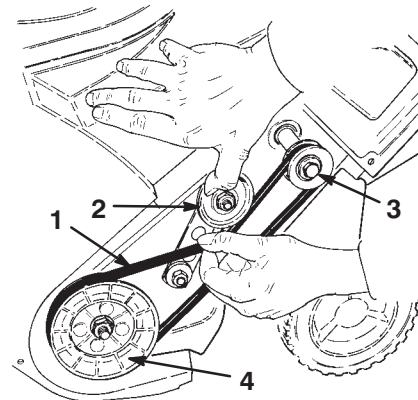

Figure 11
6. Pull the idler pulley up slightly while pulling out the old drive belt. Allow the pulley to gradually release when it can move past the belt (Fig. 11).
7. Rotate the rotor and work the old drive belt off the rotor pulley. The belt should slide easily off the drive pulley (Fig. 11).
8. Loop the new drive belt around the drive pulley. While holding the new drive belt, slip it onto the rotor pulley and rotate the rotor until the belt is completely on the rotor pulley (Fig. 11).